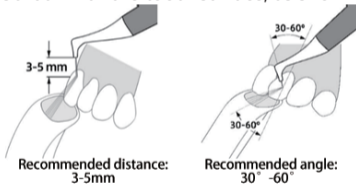

Figure 7 Schematic diagram of subgingival air polishing
3.2.1.3 When using an Dental Air Polisher for normal air polishing, it is recommended that the spray-head air outlet and the tooth surface be kept at a distance of 3-5mm, and the air polishing direction is recommended to be at an angle of 30-60° with the tooth surface, as shown in Figure 7.